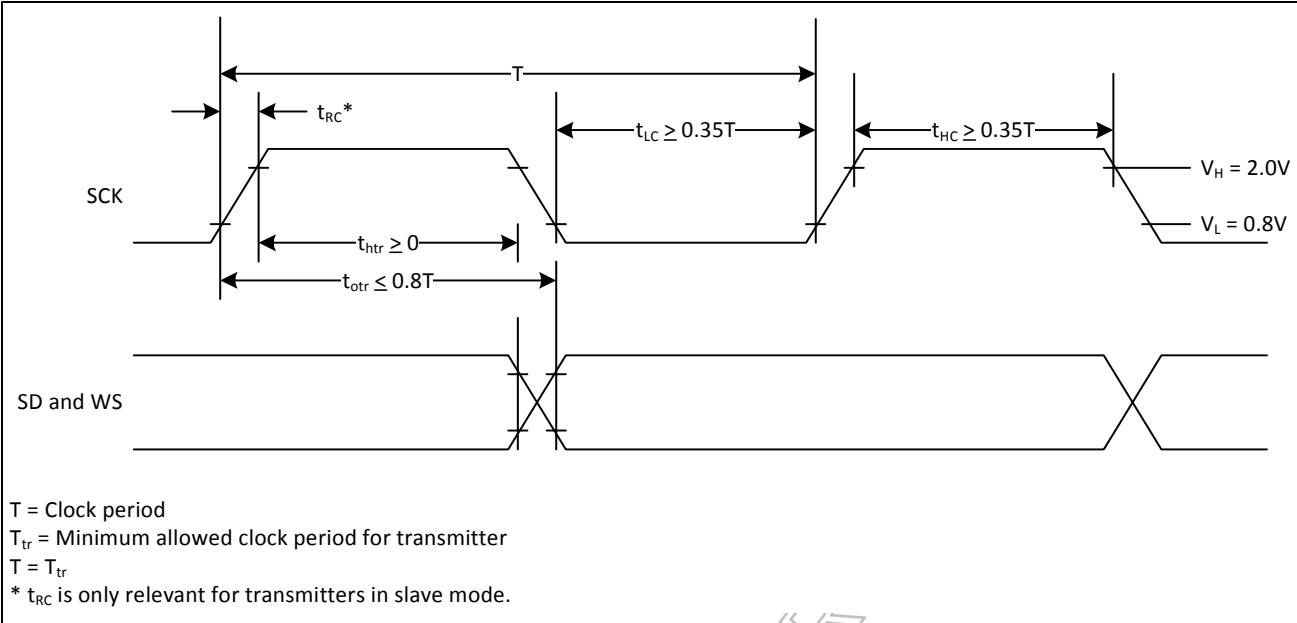
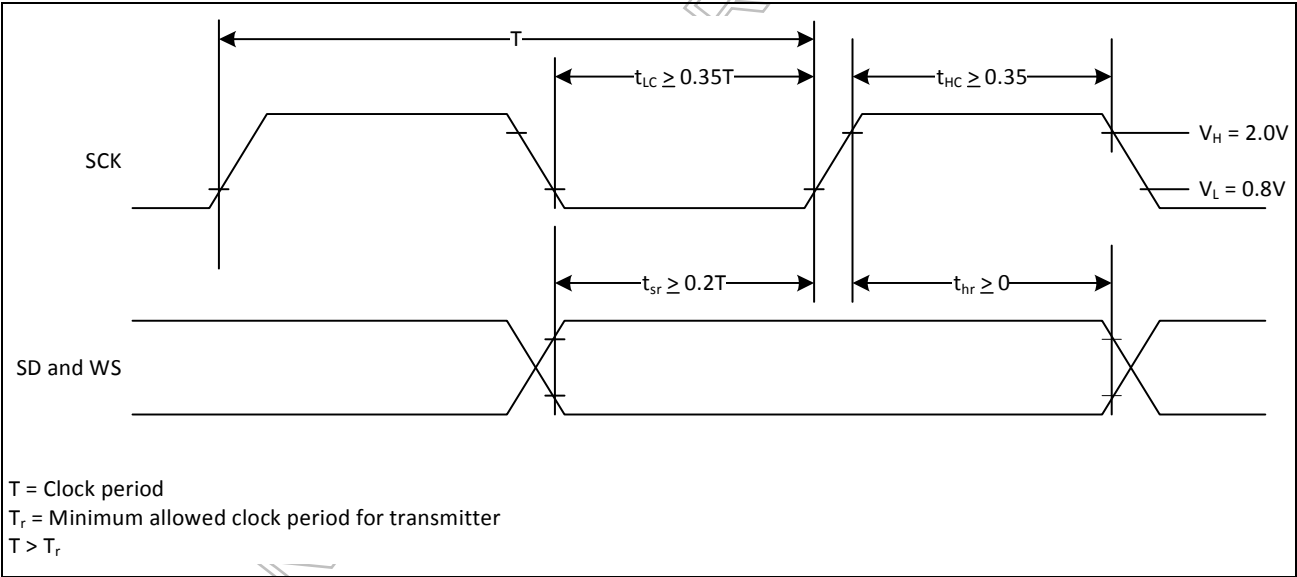

Figure 19: I2S Transmitter Timing
Figure 20: I2S Receiver Timing
**Note:** The time periods specified in Figure 19 and Figure 20 are defined by the transmitter speed. The receiver specifications must match transmitter performance.